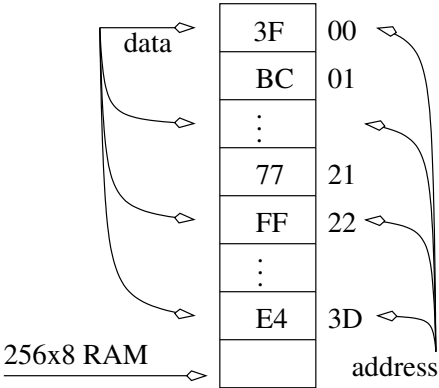

Figure 8.31: A 256x8 RAM loaded with some data.
The desired behavior of the circuit is illustrated in Figure 8.31. In this figure if PC=0 then the word at that address (3F) has a MSB of 0 so the PC is incrementde to 1. The word at address 1 is fetched (BC) and has an MSB of 1 so the least significant seven bits of BC are added to the PC, making its new value 3D. repeating this process sees the PC goto address 21, 22, 21, 22 into a never ending cycle. Make sure the solution identifies how to add the least significant seven bits to an 8-bit PC.